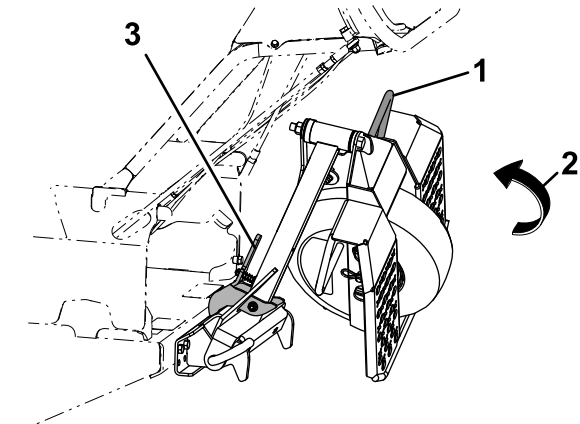

Figure 8
1. Firmly hold the platform side handle and lift slightly (reference Figure 8).